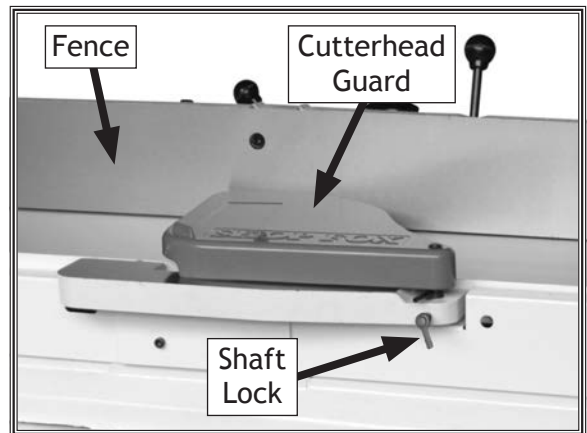

Figure 13. Cutterhead guard components.
10. Remove pre-installed button head cap screw and fender washer from bottom of cutterhead guard shaft; then loosen shaft lock and insert shaft into mounting hole, positioned so guard rests against fence (see **Figure 13**).